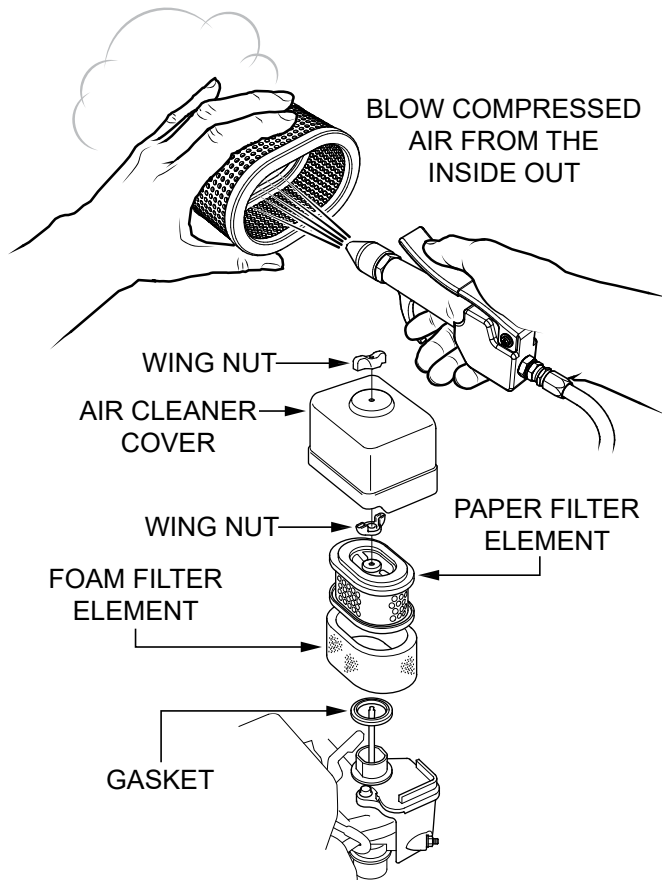

Figure 31. Engine Air Cleaner
1. Remove the **wing nut** from the **air cleaner cover**, then remove the cover (Figure 31).
2. Remove the **wing nut** from the air filter assembly (**paper filter element** and **foam filter element**), and remove the air filter assembly. See Figure 31.
7. Place the foam air filter element over the paper element, and reinstall the air filter assembly. Make sure the **gasket** (Figure 31) is in place beneath the air filter assembly. Tighten the air filter wing nut securely.